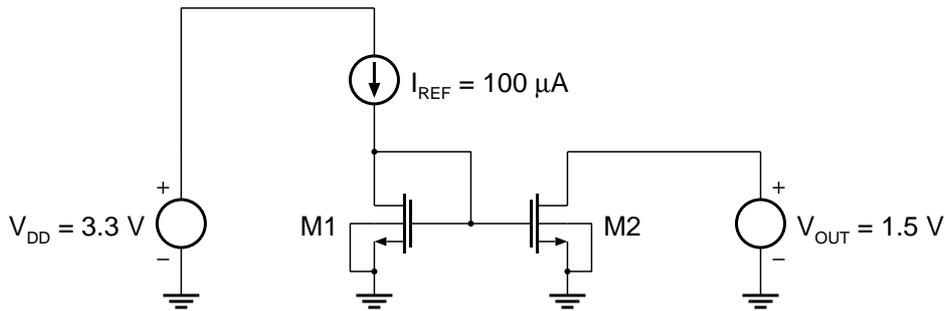
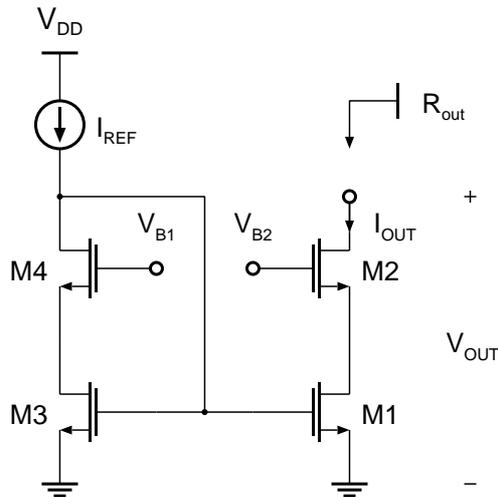

Figure 4: Simulation circuit for the current mirror.
Figure 5: High swing cascode current mirror. (The bulk terminals of all NFETs are connected to the ground potential.)
Two main characteristic parameters of a current mirror are its minimum output voltage  $V_{\text{OUT},\text{min}} = V_{\text{dsat}2}$  and its output resistance  $R_{\text{out}}$ . Determine these two values for the basic current mirror shown in Figure 4.
3. Draw a schematic according to Figure 4. For the transistors use the cell `nmos4` from the library `PRIMLIB` and for the current source use the cell `idc` from the library `analogLib`. Do not forget to place a `gnd` component! Make both transistors  $1.75 \mu\text{m}$  wide (the values in the fields `width` and `width stripe` should match) and  $0.35 \mu\text{m}$  long ( $W/L = 5$ ). Hint: to mirror the transistor on the vertical axis press the button `Sideways` in the `Add Instance` dialog.
Eq. (2) shows that the drain-source voltages of M1 and M2 should be made equal for  $I_{OUT}$  to be a precise copy of  $I_{REF}$ . However,  $V_{ds2}$  in Figure 4 is defined by the driven circuit. The idea is now to use a cascode in the output branch, i.e. to stack another transistor on top of M2 in order to shield the drain of M2 from variations of the output voltage. The resulting structure is known as a cascode current mirror. However, it can be shown that this cascode current mirror loses one threshold voltage in voltage headroom for  $V_{out}$  (see P. Gray et al., 5th Ed., Ch.4, Par.4.2.5, pp.261, for the derivation). Therefore, in practical circuits the high swing cascode current mirror of Figure 5 is used, since this structure does not exhibit the mentioned disadvantage of the normal cascode current mirror.
1. The cascode current mirror was suggested because of its increased output resistance. Draw the small signal equivalent circuit of the output branch of Figure 5 and derive the formula for the output resistance. Do you expect a significant increase in the output resistance based on your formula?
3. Eq. (2) shows that  $V_{ds1}$  and  $V_{ds3}$  should be equal when channel length modulation is considered. Why does it make sense to set  $V_{B1} = V_{B2}$ ? Set  $V_{ds1} = V_{ds3}$  and derive the relationship between  $\frac{W_1/L_1}{W_3/L_3}$  and  $\frac{W_2/L_2}{W_4/L_4}$  for  $V_{B1} = V_{B2}$  and a general ratio of  $\frac{I_{OUT}}{I_{REF}}$ . Use the MOSFET formulas given in the appendix (i.e., do not include the factor  $(1 + \lambda V_{ds})$  for the drain current  $I_d$ ).
6. You are now in a position to plug your design of the cascode current mirror into the simulator. Create a new cell in the Schematic Composer and draw the circuit schematic of Figure 5. After you have specified all transistor dimensions and voltage sources according to your design, start Analog Environment and perform a DC analysis. When the simulation has finished, annotate the DC node voltages and the DC operating points in the schematic by clicking `Results.Annotate.DC Node Voltages` and `Results.Annotate.DC Operating Points` in the Analog Environment window. The subset of parameters displayed for the components may be changed. Let us add `gds` for the transistors: Choose `Edit.Component Display` in the schematic window, tick the option `Select Label: parameter` and make sure the following options are active below: `library`, `operating point`, and `DC`. Afterwards click on a `nmos4` in the